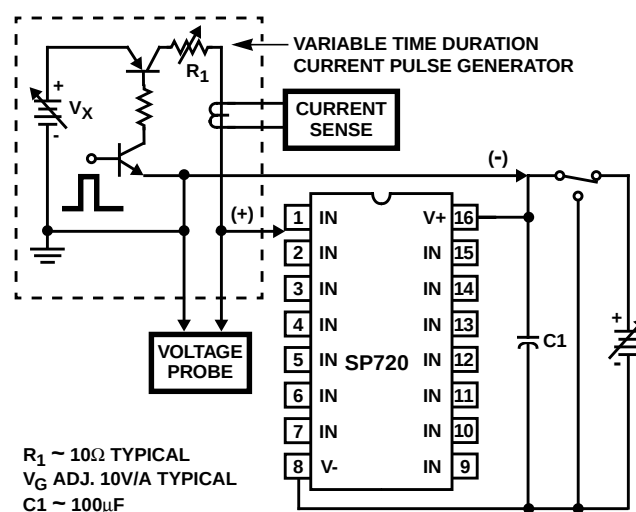
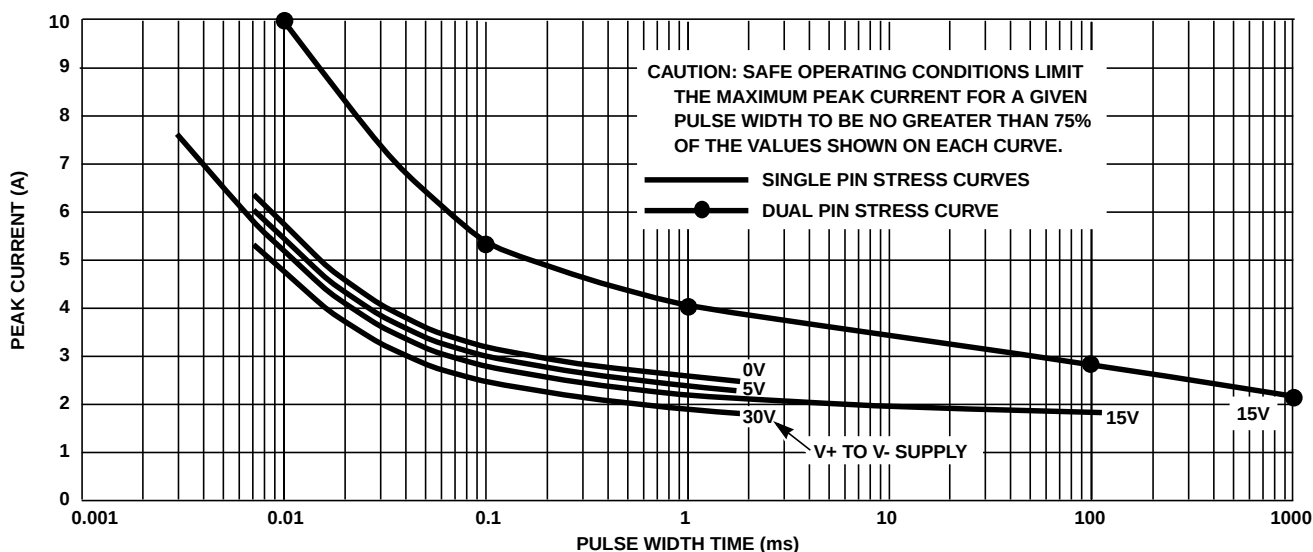

FIGURE 2. TYPICAL SP720 PEAK CURRENT TEST CIRCUIT WITH A VARIABLE PULSE WIDTH INPUT
FIGURE 3. TYPICAL SINGLE PULSE PEAK CURRENT CURVES SHOWING THE MEASURED POINT OF OVERSTRESS IN AMPERES vs PULSE WIDTH TIME IN MILLISECONDS ($T_A = 25^\circ C$)
Input Peak Current, I_{IN} (Refer to Figure 3) ± 2 A, 100 μ s
3. Refer to the Figure 3 graph for definitions of equivalent "SCR ON Threshold" and "SCR ON Resistance". These characteristics are given here for thumb-rule information to determine peak current and dissipation under EOS conditions.
The test circuit shown in Figure 2 provides a positive pulse input. For a negative pulse input, the (-) current pulse input goes to an SP720 'IN' input pin and the (+) current pulse input goes to the SP720 V- pin. The V+ to V- supply of the SP720 must be allowed to float (i.e., it is not tied to the ground reference of the current pulse generator). Figure 3 shows the point of overstress as defined by increased leakage in excess of the data sheet published limits.
The maximum peak input current capability is dependent on the V+ to V- voltage supply level, improving as the supply voltage is reduced. Values of 0, 5, 15 and 30 voltages are shown. The safe operating range of the transient peak current should be limited to no more than 75% of the measured overstress level for any given pulse width as shown in Figure 3.
When adjacent input pins are paralleled, the sustained peak current capability is increased to nearly twice that of a single pin. For comparison, tests were run using dual pin combinations 1+2, 3+4, 5+6, 7+9, 10+11, 12+13 and 14+15. The overstress curve is shown in Figure 3 for a 15V supply condition. The dual pins are capable of 10A peak current for a 10μs pulse and 4A peak current for a 1ms pulse. The complete curve for single pulse peak current vs. pulse width time ranging up to 1 second is shown in Figure 3.